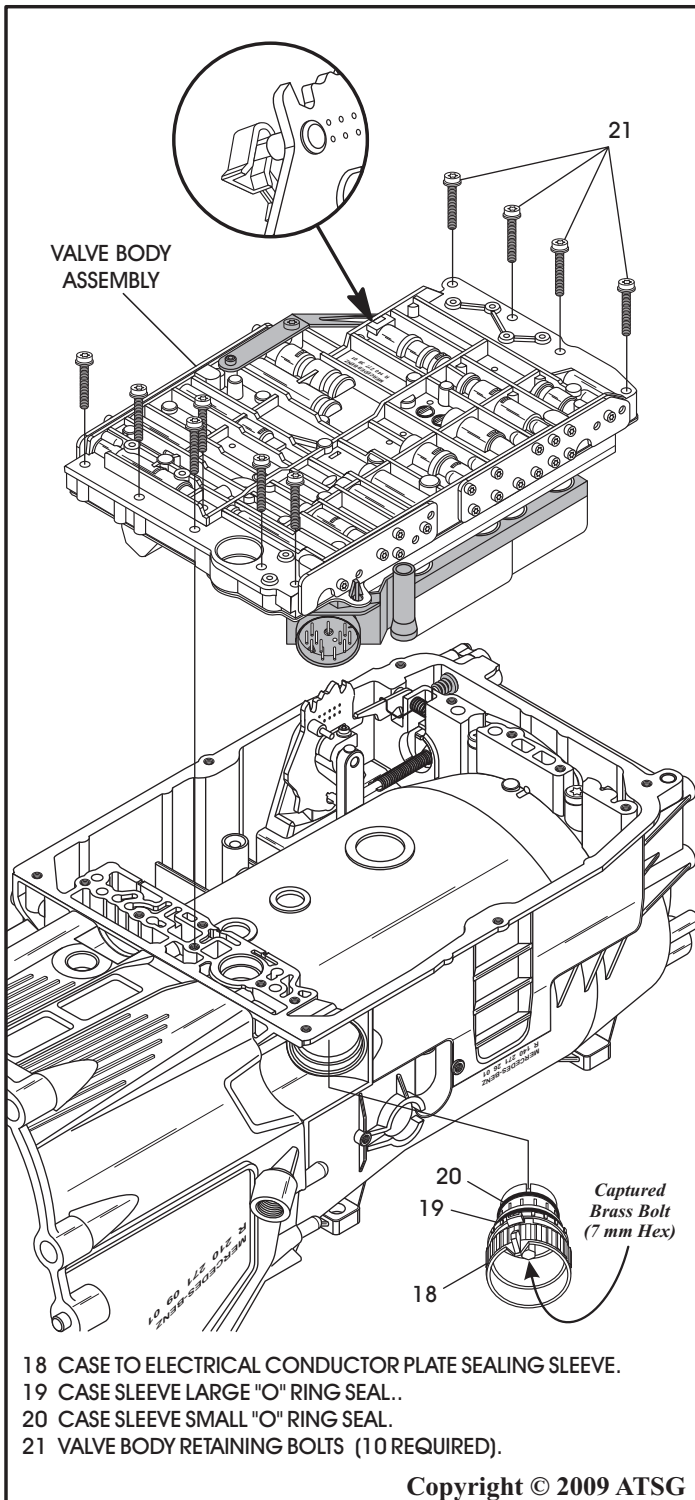

Figure 194
40. Rotate transmission so that the pan surface is facing up, as shown in Figure 194.
41. Install the completed valve body assembly, as shown in Figure 194.
Note: Ensure manual valve engages on the detent lever pin (See inset Figure 194).
42. Install the ten valve body retaining bolts, as shown in Figure 194, and torque valve body bolts and the inside detent spring bolt to 8 N·m (71 in.lb.).
43. Install new "O" rings on the conductor plate sealing sleeve, as shown in Figure 194.
44. Install the conductor plate sleeve, as shown in Figure 194, and tighten the 7mm brass screw.